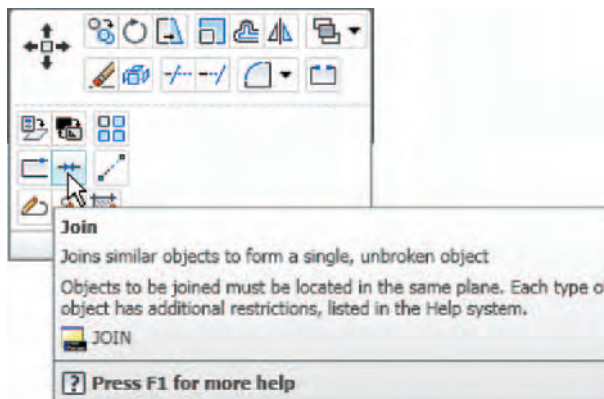

Fig. 5.37 The **Join** tool icon from the **Home/Modify** panel
2. Call the **Join** tool – *click* the **Join** tool icon in the **Home/Modify** panel (Fig. 5.37), *left-click* its tool icon in the **Modify** toolbar, select **Join** from the **Modify** drop-down menu or *enter* **join** or **j** at the command line. The command line shows: